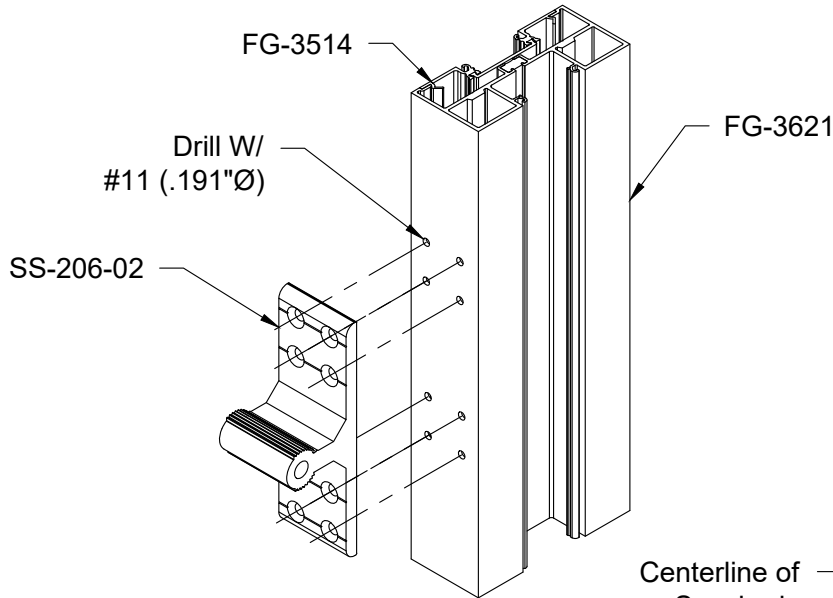

FIGURE 20
- 1) Drill face of mullion using a #11 (.191" Ø) drill per FIGURE 20 & 21